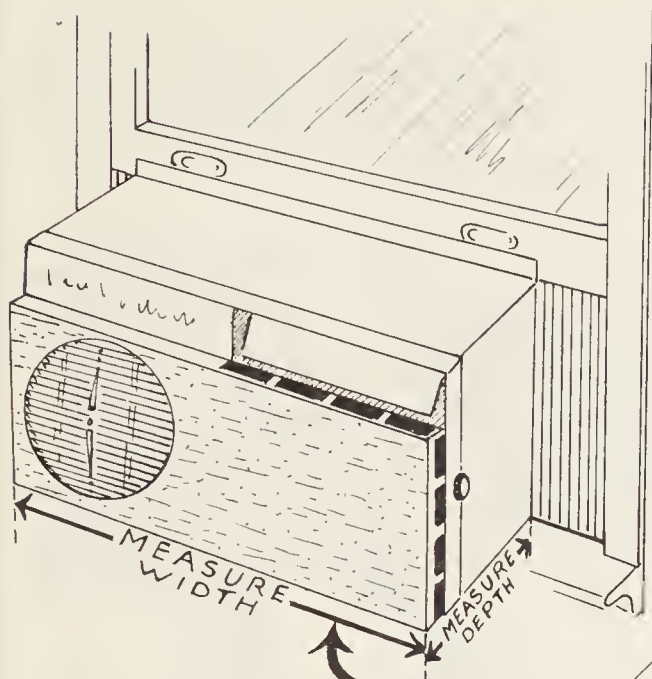

FIG. 3
4. Cut to size a one-quarter-inch-thick (or thicker) piece of foam rubber or foam plastic to cover the area of the base pan that extends into the room. (*Figure 3*)